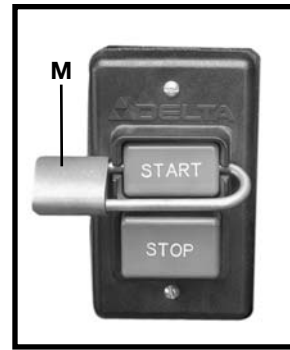

Fig. 18
IMPORTANT: When the tool is not in use, the switch should be locked in the “OFF” position to prevent unauthorized use, using a padlock (M) Fig. 18 with a 3/16" diameter shackle.